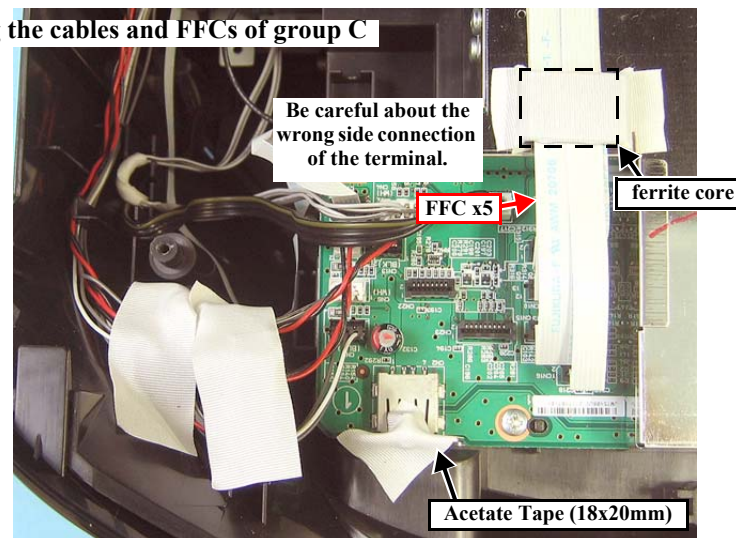

Figure 4-22. Routing the cables and FFCs of group C
7. Connect the FFCs of group C to the connectors, and secure the ferrite core with acetate tape. (Fig. 4-22)
8. Stick acetate tape on the USB terminal (in the front). (Fig. 4-22)